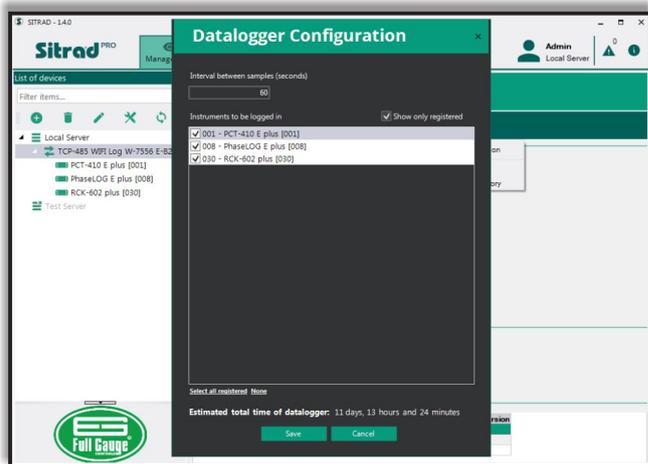

Figure 32
Step 2: The **Datalogger Configuration** screen is displayed (Figure 32). Set the interval between samples and select the instruments you want to be registered in the datalogger. Only registered instruments are displayed in the list. To insert instruments per address that have not been installed yet, uncheck the "Show only registered" box, and all addresses will be available to choose from. The screen also displays the estimated total history time of the datalogger. Click **Save** to keep your changes.